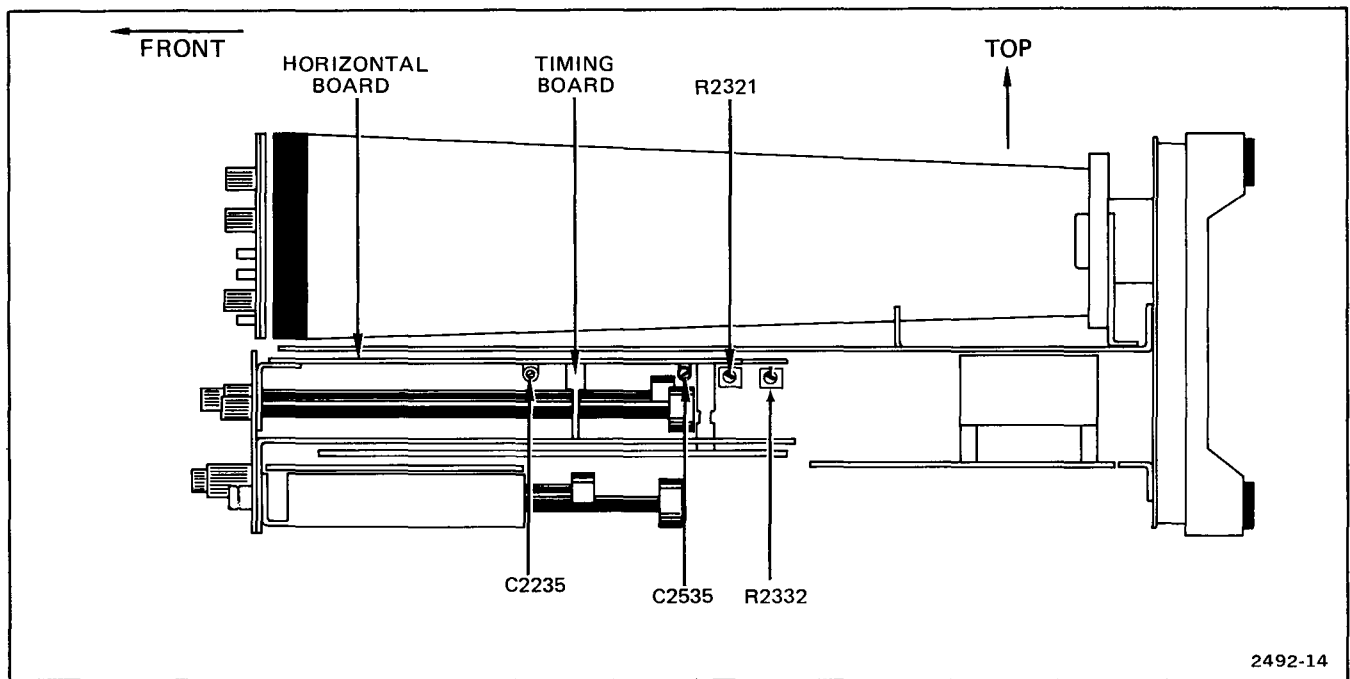

Fig. 4-5. Time Base adjustment locations (on right side of instrument).
b. ADJUST—Horiz Cal, R2332 (see Fig. 4-5), and horizontal POSITION control for 1 marker per division over center 8 divisions.
b. ADJUST—C2235 (see Fig. 4-5), and horizontal POSITION control for 1 marker per division over center 8 divisions.
c. ADJUST—R2321 (see Fig. 4-5) for one marker per division over 8 divisions. Use POSITION control.